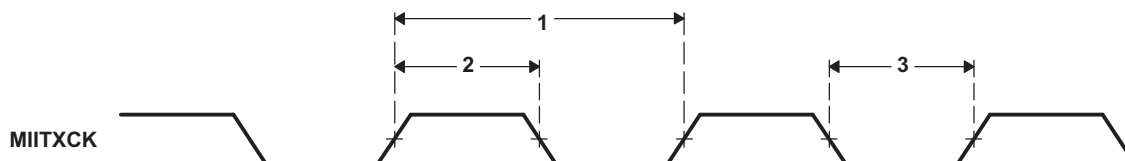

**Figure 5-36. 100/10Mb/s MII Transmit Clock Timing**
**Table 5-59. Timing Requirements for MIITXCK (see Figure 5-36)**